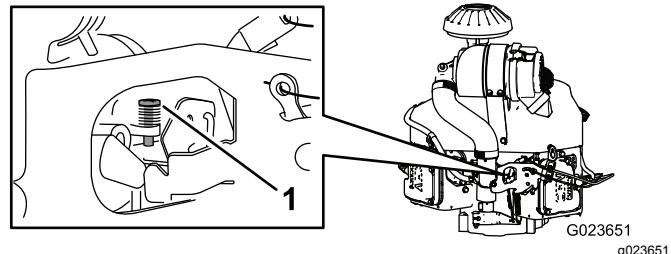

Figure 67
4. Adjust the stop screw on the carburetor (Figure 67) so that the idle speed is 1350 to 1550 rpm.